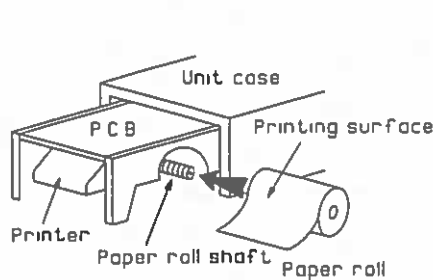

Figure 1
- 5.2.2 Set the paper roll on the shaft (See Figure 1). Since the outer and inner surfaces of the paper are different set the roll so that the printing surface is the outer.